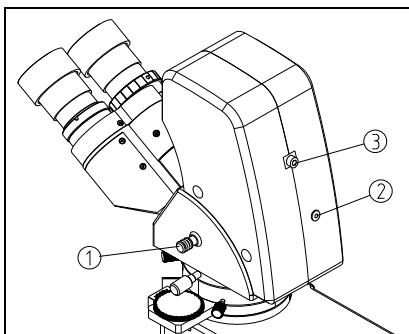

Fig.39
Insert the output connector of the transformer into the power socket② on the back of the head, insert the video cable into the C-Video video output port/USB port③ on the back of the head. (See Fig. 39)
Pull the light path selecting pole① of viewing head to the outmost, which can do projection of both the binocular and TV at the same time, with the light ratio of 80:20. Push the light path selecting pole to the innermost, 100% of the light can enter the binocular observation system. (See Fig. 39)